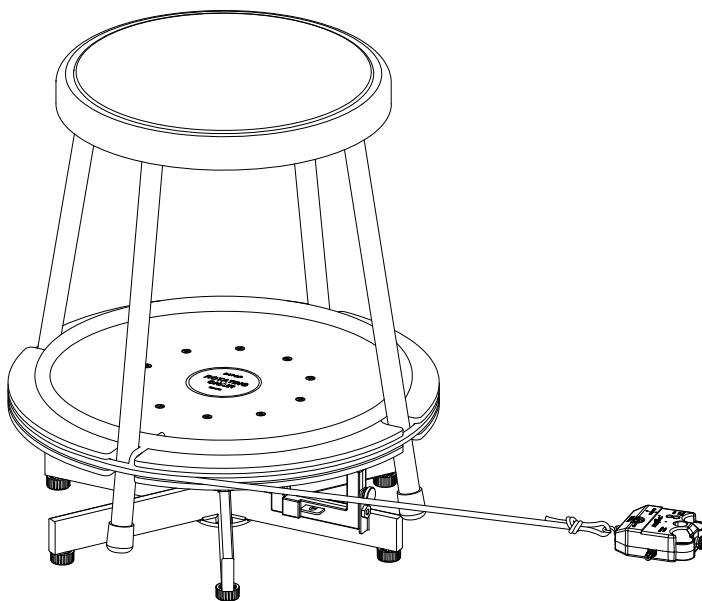

Figure 3
One easy way to measure the force exerted on the platform is to tie the free end of the rope or cord to a force sensor and apply the torque by pulling on the sensor, as shown in Figure 3. As per the previous instructions, make sure to pull tangent to the platform.
2. Wrap a rope or cord around the groove of the rotating chair platform, then attach a force sensor to the rope or cord, as shown in Figure 3.